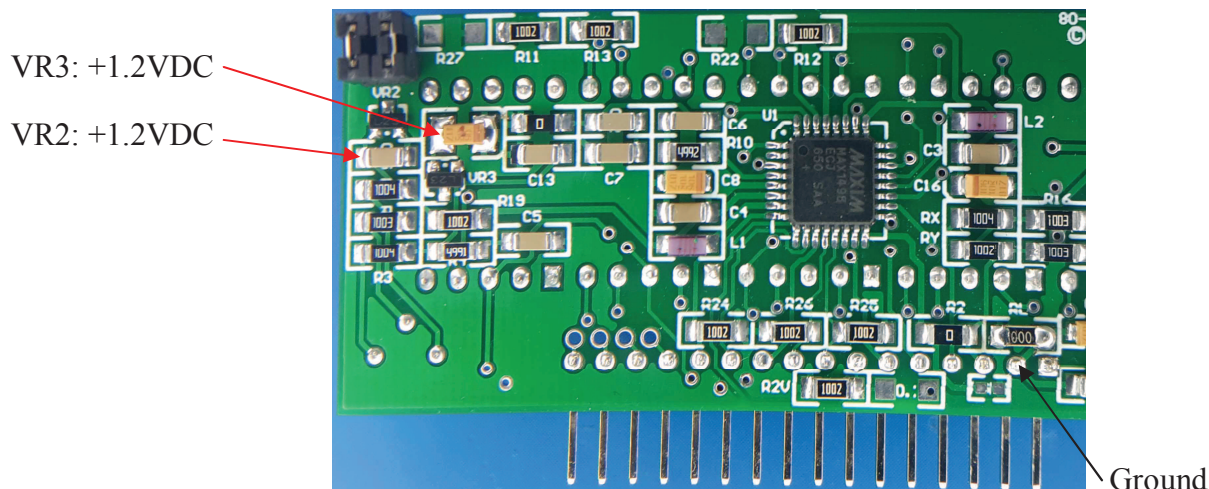

Figure 7: VR2 and VR3 Test Points
- 4.2.6 Check the voltage references VR2 and VR3 to confirm they are operating at 1.2 DC Volts. The test points are shown below in **Figure 7**.